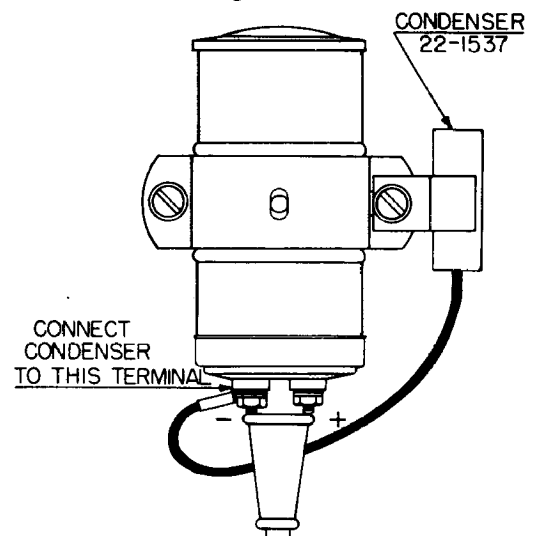

Fig. 6
3. Remove bolt on the right side of the ignition coil. Mount condenser No. 22-1537 under this bolt. Connect lead to coil terminal marked (—). (Fig. 6.)